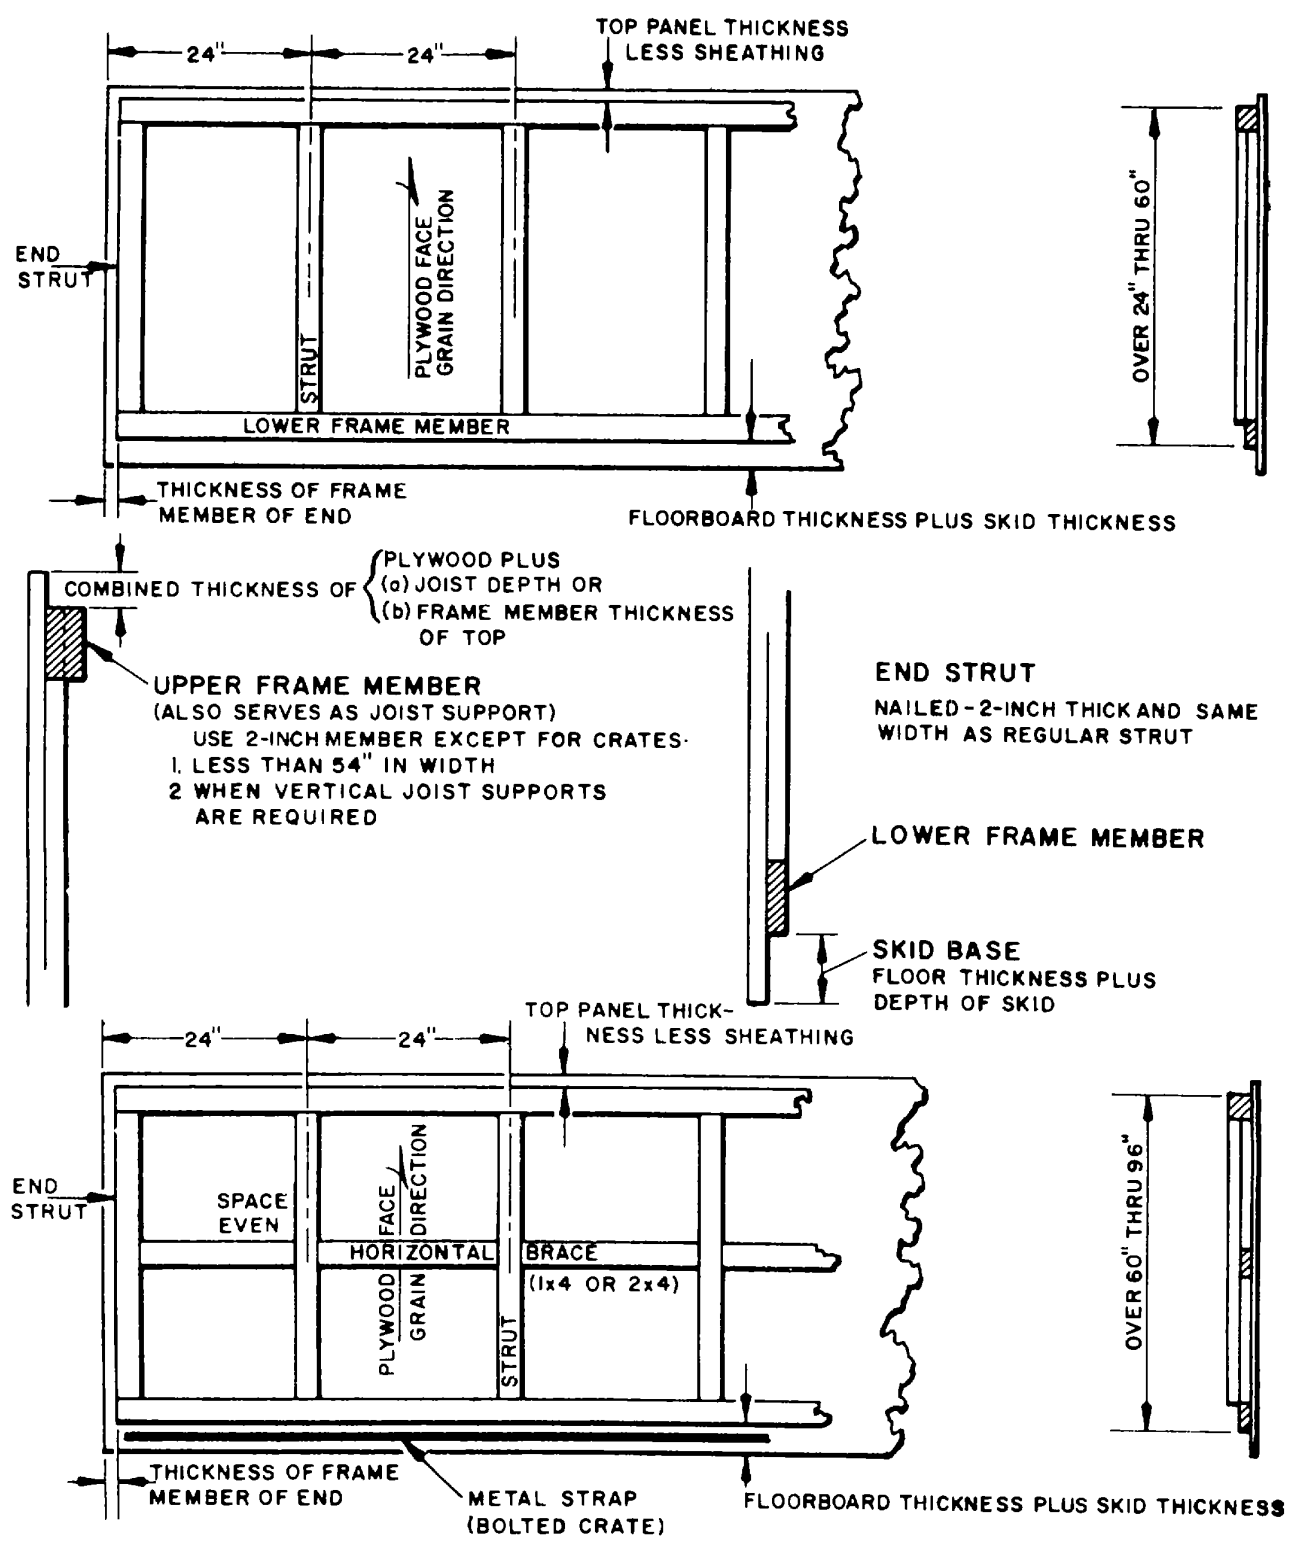

Figure D-3-3. Fabrication of Side Panels.
c. Side Panels. Figure D-3-3 depicts the fabrication characteristics of side panels. Place vertical struts on 24-inch centers. Use one horizontal brace when crate height exceeds 60 inches through 96 inches. Use two horizontal braces when crate height is over 96 inches through 120 inches. Fit horizontal braces between vertical struts. Upper and lower frame members, vertical struts, and vertical end struts are 2- by 4-inch lumber for net loads to 10,000 pounds, 2- by 6-inch lumber for loads over 10,000 to 20,000 pounds and 2- by 8-inch lumber for loads over 20,000 pounds. Use 6d nails to secure plywood sheathing to frame members. Clinch nails on the framing.